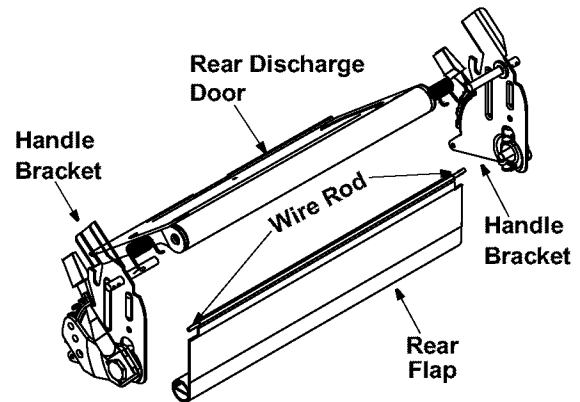

Figure 15
1. To remove rear flap, cut off the flat end of the wire rod which secures it to the deck. See Figure 15 .